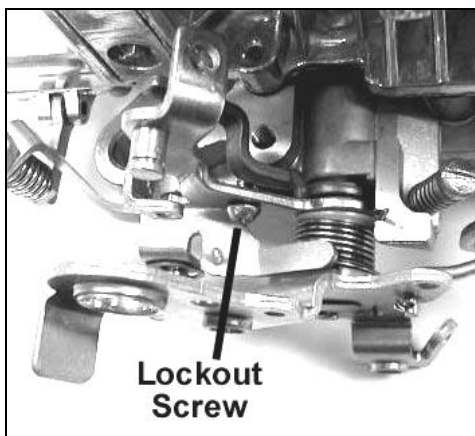

Figure 6—Ford applications
3. Remove the lock out screw from the kickdown lever (Figure 6).